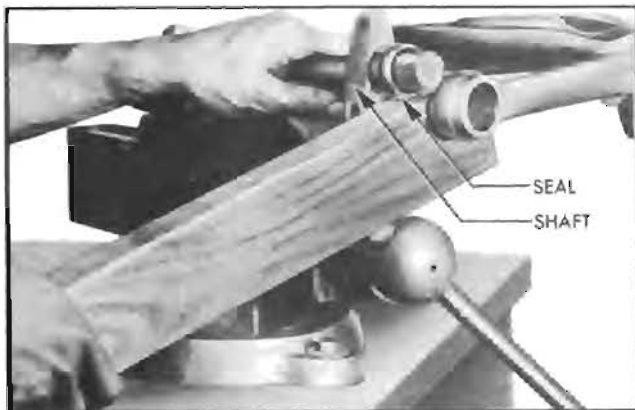

Figure 6-22—Springing Arm Over End of Shaft
5. Insert one end of shaft with the seal in place in one control arm end and force opposite end of shaft into the other control arm end. A piece of wood approximately $11\frac{1}{4}$ " x $2\frac{1}{2}$ " x 24" long can be used as a pry. See figure 6-22.